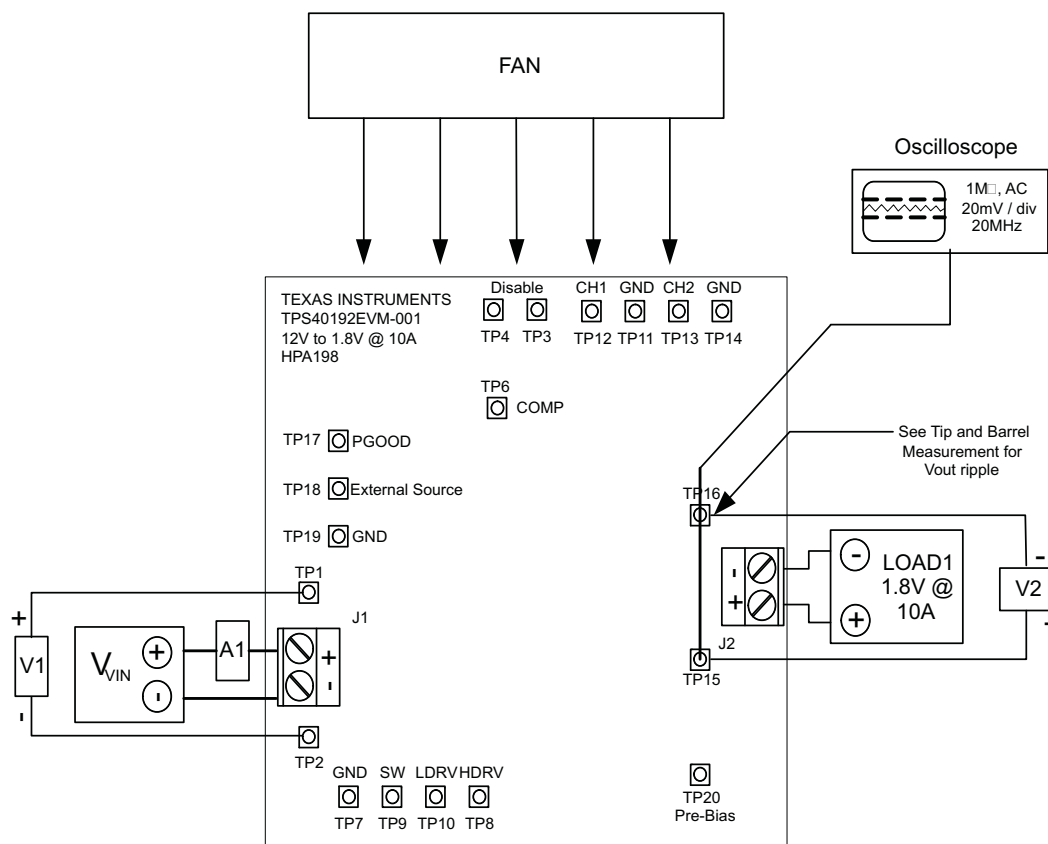

Figure 1. TPS40192EVM-001 Recommended Test Setup
The input voltage source (V_{IN}) should be a 0- to 15-V variable DC source capable of 5 A dc. Connect V_{IN} to J1 as shown in Figure 1.
Shown in Figure 1 is the basic test setup recommended to evaluate the TPS40192EVM-001. Note that although the return for J1 and J2 are the same, the connections should remain separate as shown in Figure 1.
2. Prior to connecting the DC input source, V_{IN} , it is advisable to limit the source current from V_{IN} to 5 A maximum. Ensure that V_{IN} is initially set to 0 V and connected as shown in Figure 1.
3. Connect the ammeter A1 (0- to 5-A range) between V_{IN} and J1 as shown in Figure 1.
4. Connect voltmeter V1 to TP1 and TP2 as shown in Figure 1.
5. Connect LOAD1 to J2 as shown in Figure 1. Set LOAD1 to constant-current mode to sink 0 Adc before V_{IN} is applied.
6. Connect voltmeter, V2 across TP15 and TP16 as shown in Figure 1.
7. Place fan as shown in Figure 1 and turn on, ensuring that air is flowing across the EVM.